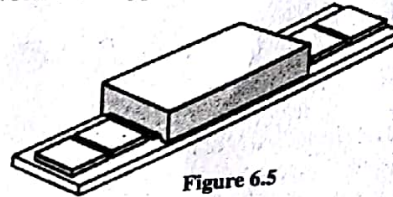

Figure 6.5
- 3) **Flat-Type Linear Motors:** There are three designs of these motors: slotless ironless, slotless iron, and slotted iron. Again, all types are brushless. To choose between these types of motors requires an understanding of the application. Figure 6.5 shows that flat type linear motors.